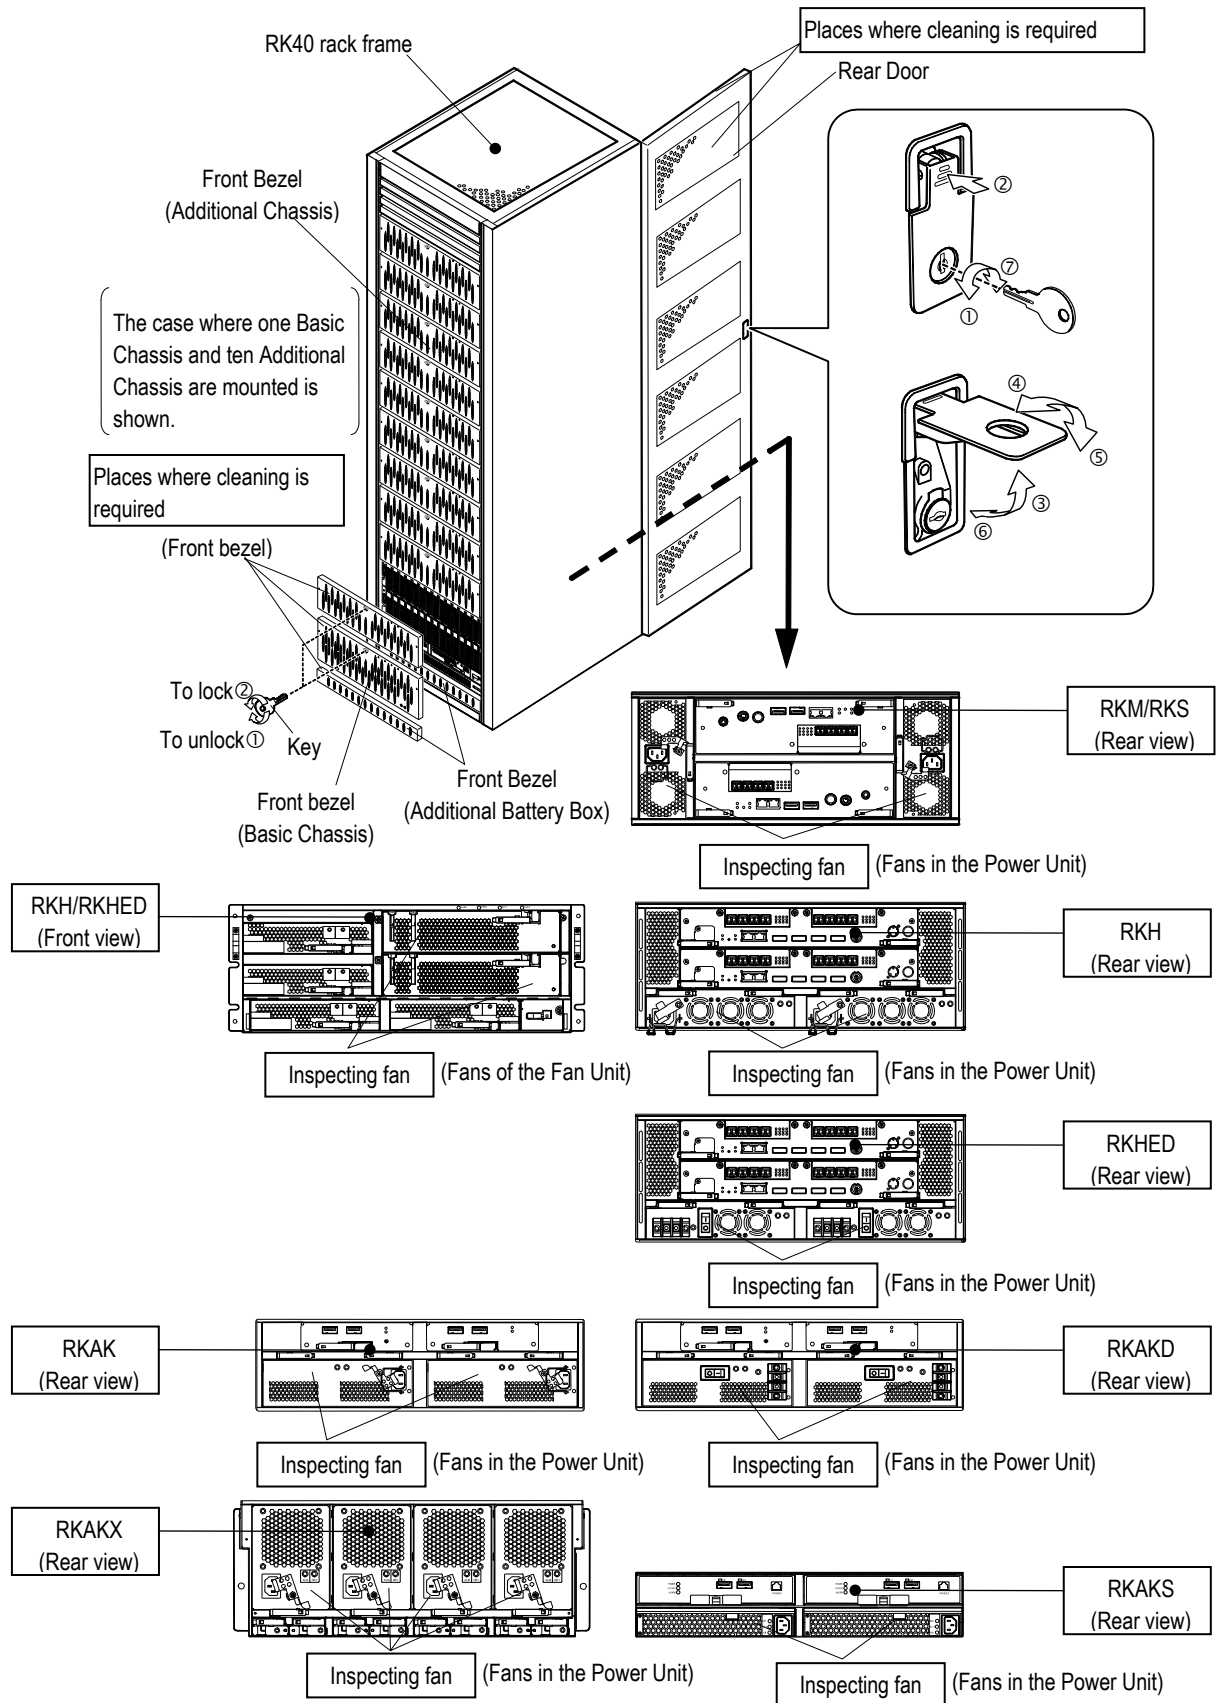

Figure 3.2.1 Inspecting and Cleaning Rackmount Model with RK40 Rack Frame
(1) Open the rear door. (See Figure 3.2.1.)